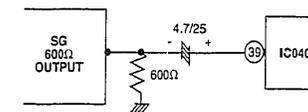

Fig. 1-4-2B
- (3) Apply the signal to IC0401 pin (39) with the jig shown as follows in figure 1-4-2B.